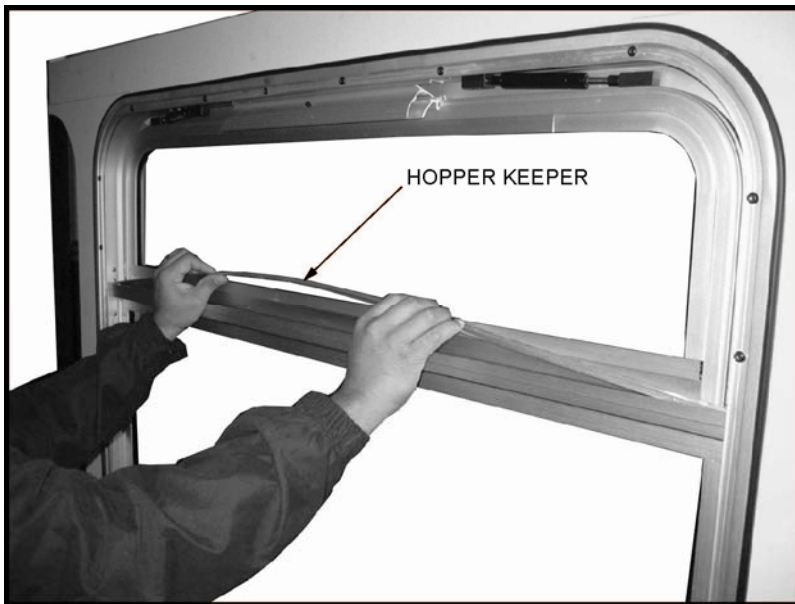

FIGURE 10: HOPPER KEEPER
3. Refer to **Figure 10**. Close Hopper Window and install Hopper Keeper.